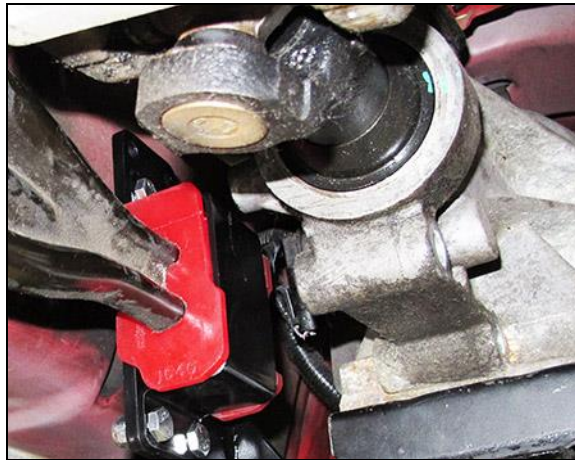

Figure 4
10. Apply a light spray of penetrating oil to the end of the torque arm. Install the Energy Suspension bushing onto the torque arm, as depicted in **Figure 4**, if your torque arm is formed with its flanged edges facing towards the outside of the car. If your torque arm is formed with its flanged edges facing the transmission, flip the bushing over so it’s internal profile corresponds with the orientation of the shape on the tip of the torque arm and install the bushing. Place the included saddle bracket over the bushing and attach it to the corresponding holes/slots in the crossmember with the included 5/16 nuts and bolts. The lowest row of holes approximates the stock mounting position of the torque arm. Moving the mount higher will raise the instant center of the rear suspension for increased anti-squat characteristics.